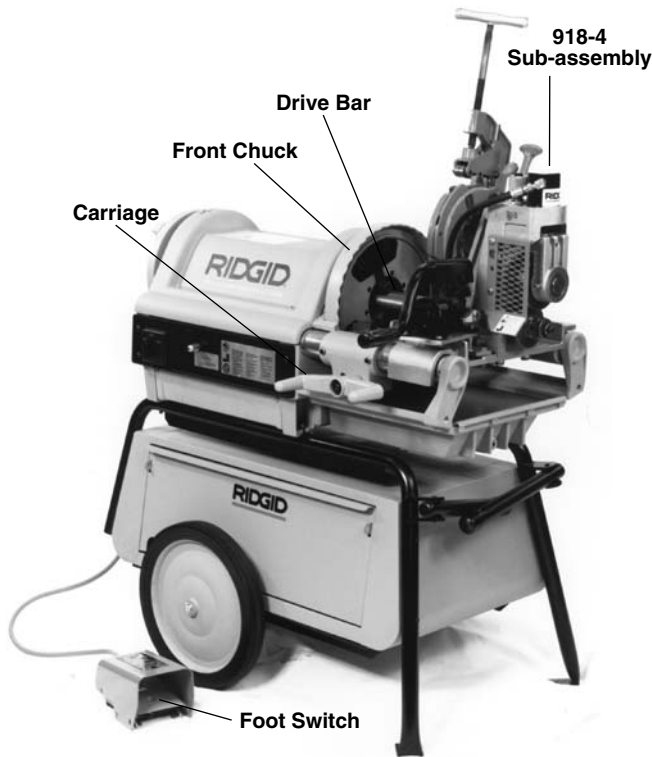

Figure 6 – 918-4 Roll Groover on 1224 Threading Machine
2. Place 918-4 on the far side carriage rail and lower onto near side rail. (Figure 6)